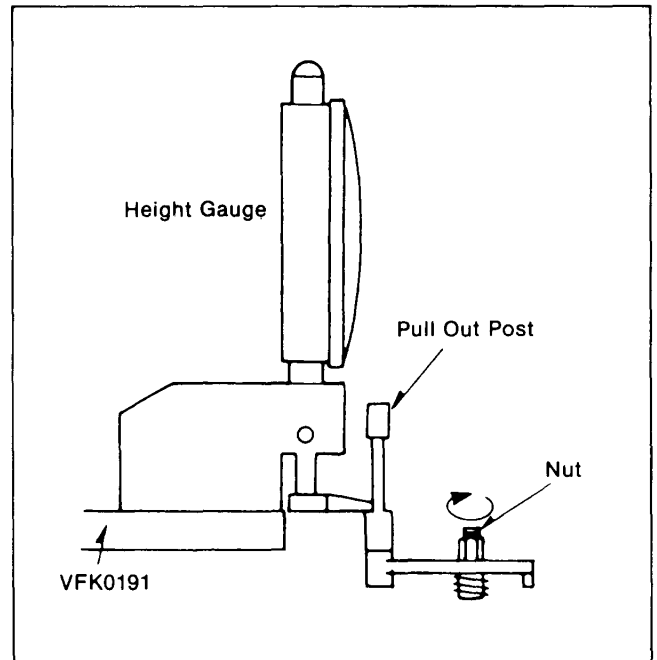

Figure M10
5. Place the Reel Table Height Gauge as shown in Figure M10 and turn the nut slowly until the gauge reads - 0.03mm +/- 0.01mm.